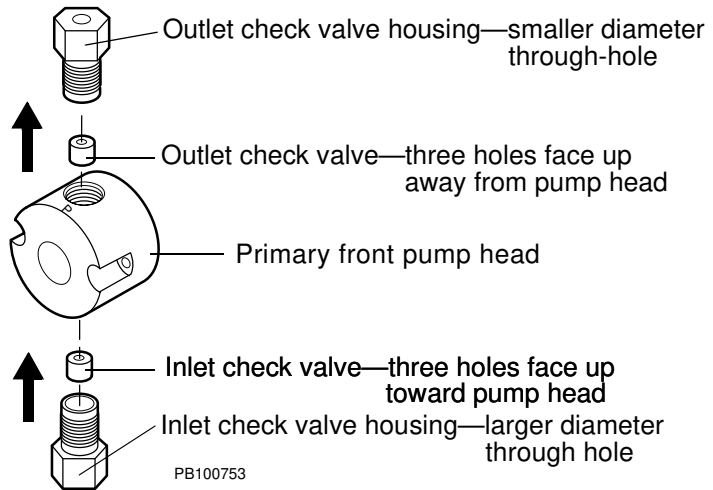

Figure 9-17 Re-assembling Check Valves
1. Reassemble the check valves and housings as shown in Figure 9-17.
NOTE: The inlet and outlet check valves are interchangeable. However, make sure the three-hole end of each check valve faces up (Figure 9-17).